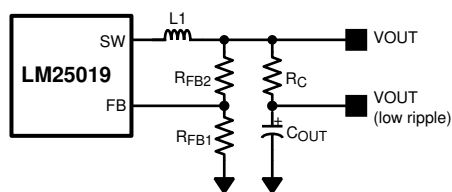

Figure 7-2. Low Ripple Output Configuration
This regulator regulates the output voltage based on ripple voltage at the feedback input, requiring a minimum amount of ESR for the output capacitor (C_{OUT}). A minimum of 25 mV of ripple voltage at the feedback pin (FB) is required for the LM25019. In cases where the capacitor ESR is too small, additional series resistance can be required (R_{C} in Figure 7-2).
For applications where lower output voltage ripple is required the output can be taken directly from a low ESR output capacitor, as shown in Figure 7-2. However, R_{C} slightly degrades the load regulation.